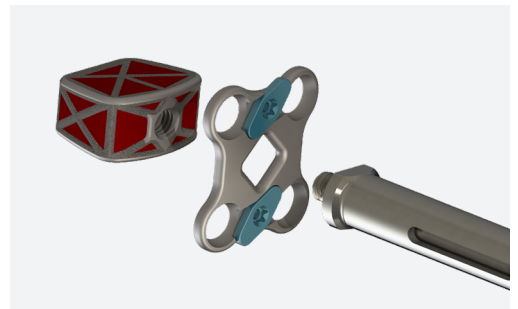
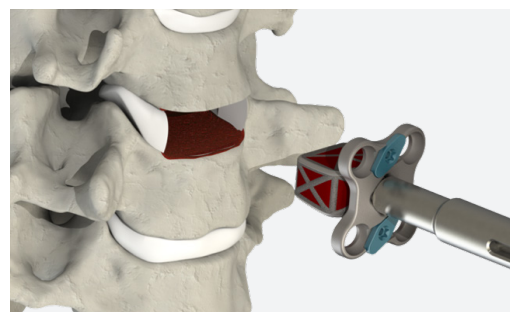

Figure 8
Figure 9
- ▲ If a single-step insertion is desired, the appropriate 1-level CSTS Plate and CSTS Interbody may be combined on the back table using the CSTS Plate Combo Inserter (Fig. 8). Once assembled, insert the CSTS Interbody/Plate construct into the disc space and fix the plate into position (Fig. 9).